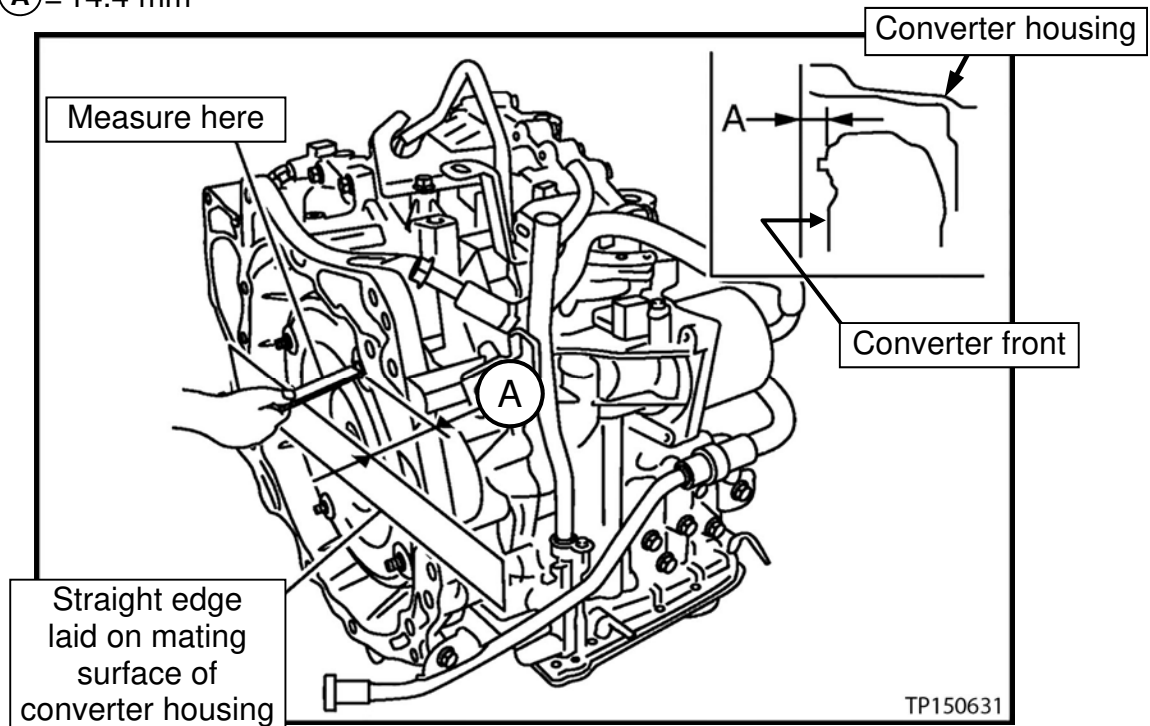

Figure 173
- Verify the torque converter is installed at the proper depth (see Figure 173).
- (A) = 14.4 mm